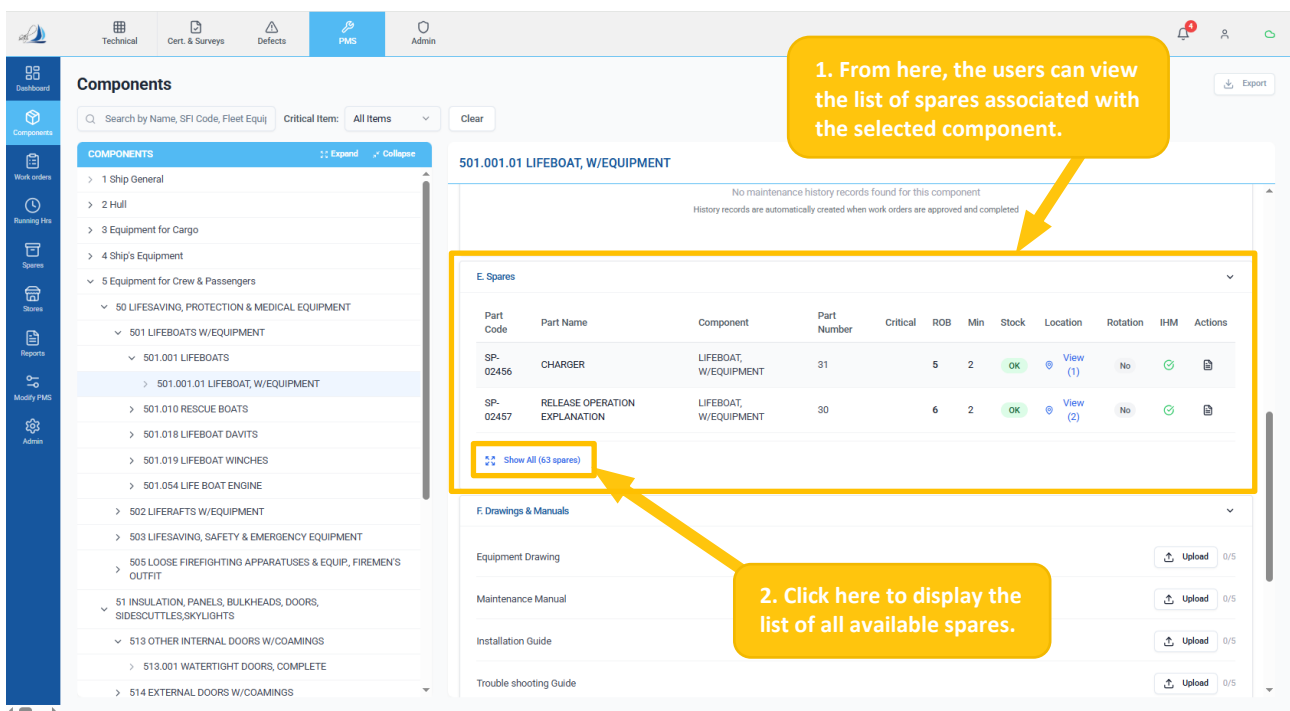

Figure 23
- In the Part E section, users can view the list of all spare parts associated with the component, including part details, stock levels, location, and availability status. (Ref Figure 23)
- Click the 'Show All' button to view the full list of available spares. (Ref Figure 23)